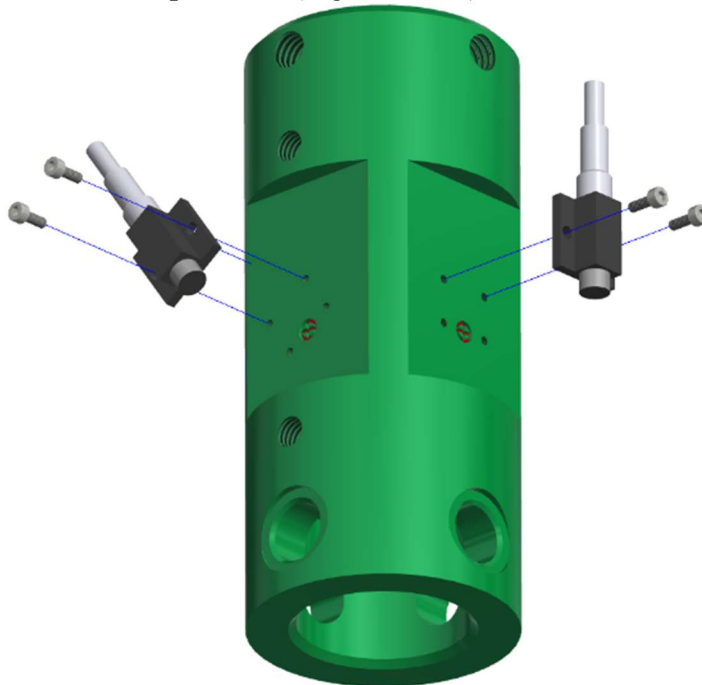

Figure 10-15. Remove the two accelerometers from the Lower Tibia Shaft
10.2.11 Remove the two accelerometers from the Lower Tibia Shaft by removing two M1.4 X 0.3 X 4 LG. SHCS per accel (Figure 10-15).